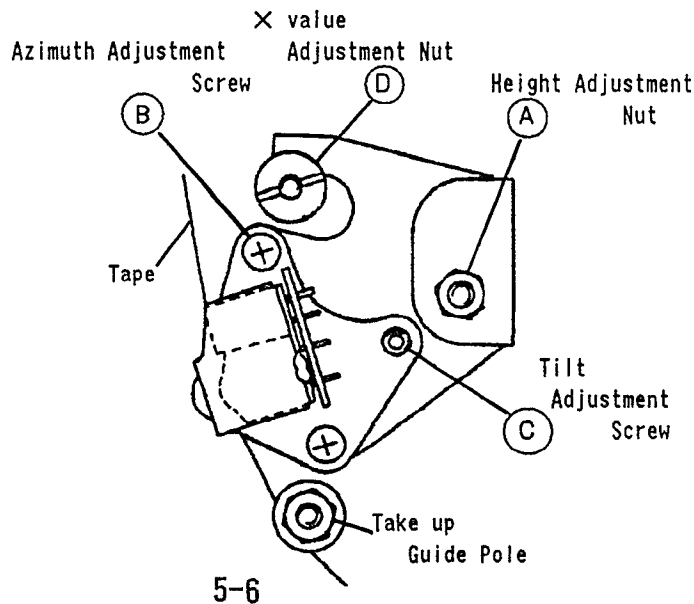

Fig. 5-9
3. Adjust the X value adjustment nut ④ for maximum PB FM signal for CH1 by using F6-N test tape (Refer to Fig. 5-9).